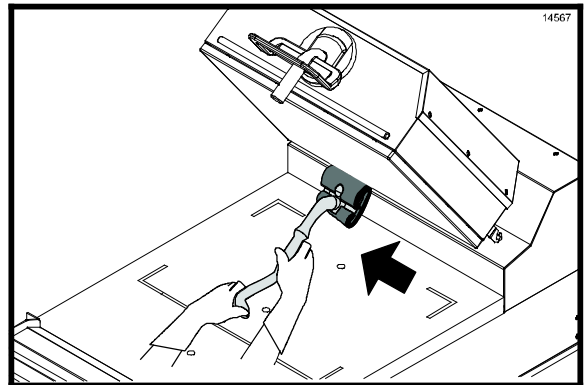

Figure 29
20. Scrub the back side of the platen. (See Figure 29.)